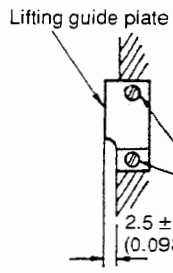

Fig. 5-19-3
- 2) The edge surface of the lifting guide plate extends  $2.5 \pm 0.1$  mm ( $0.098'' \pm 0.004''$ ) beyond the edge surface of the machine arm. (Fig. 5-19-3)
- 2 ) Loosen setscrew ⑤, and adjust so that the edge of the lifting guide plate extends  $2.5 \pm 0.1$  mm ( $0.098" \pm 0.004"$ ) beyond the machine arm. After adjustment, tighten setscrew ⑤. (Fig. 5-19-3)